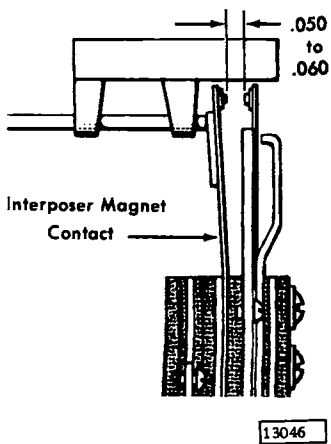

Figure 4-27. Interposer Magnet Contact
2. Adjust the interposer contact for 0.050" to 0.060" air gap (Figure 4-27).